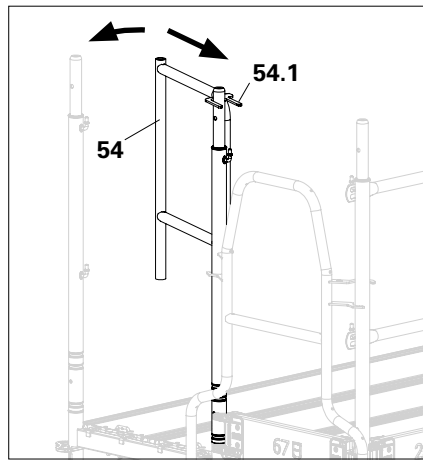

Fig. A3.15a
1. Push the fork (54.1) onto the tube positioned opposite. (Fig. A3.15a)